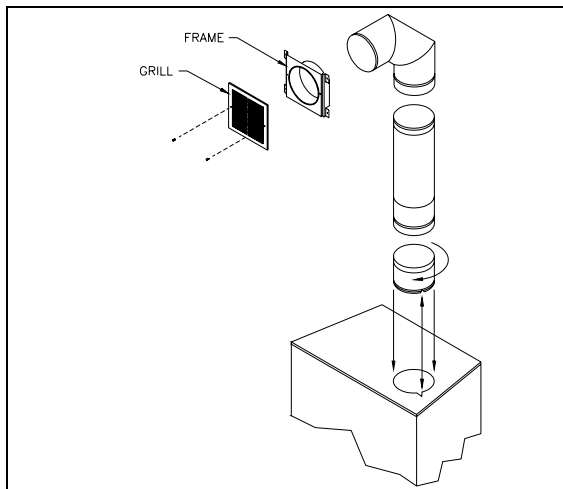

Figure 16
(see figure 16)
1. Remove the plates closing up the 8" dia. holes on top of the fireplace. Then, cut the insulation in order to obtain two 8" dia. openings. Fix the adaptors on the fireplace openings by turning clockwise (figures 16 and 17).